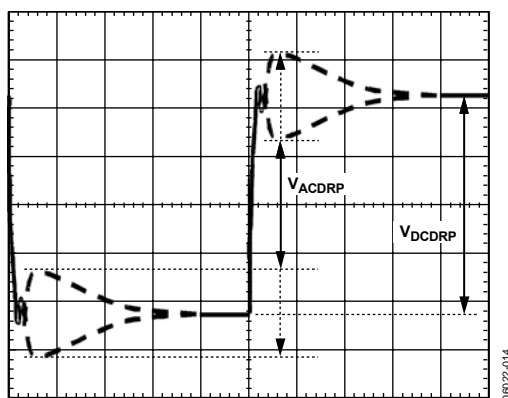

Figure 14. AC Load Line Waveform
14. Measure the output waveform (if not visible, use dc offset on scope to view). Try to use a vertical scale of 100 mV/div or finer. This waveform should look similar to Figure 14.
15. Use the horizontal cursors to measure V_{ACDRP} and V_{DCDRP} , as shown in Figure 14. Do not measure the undershoot or overshoot that happens immediately after this step.